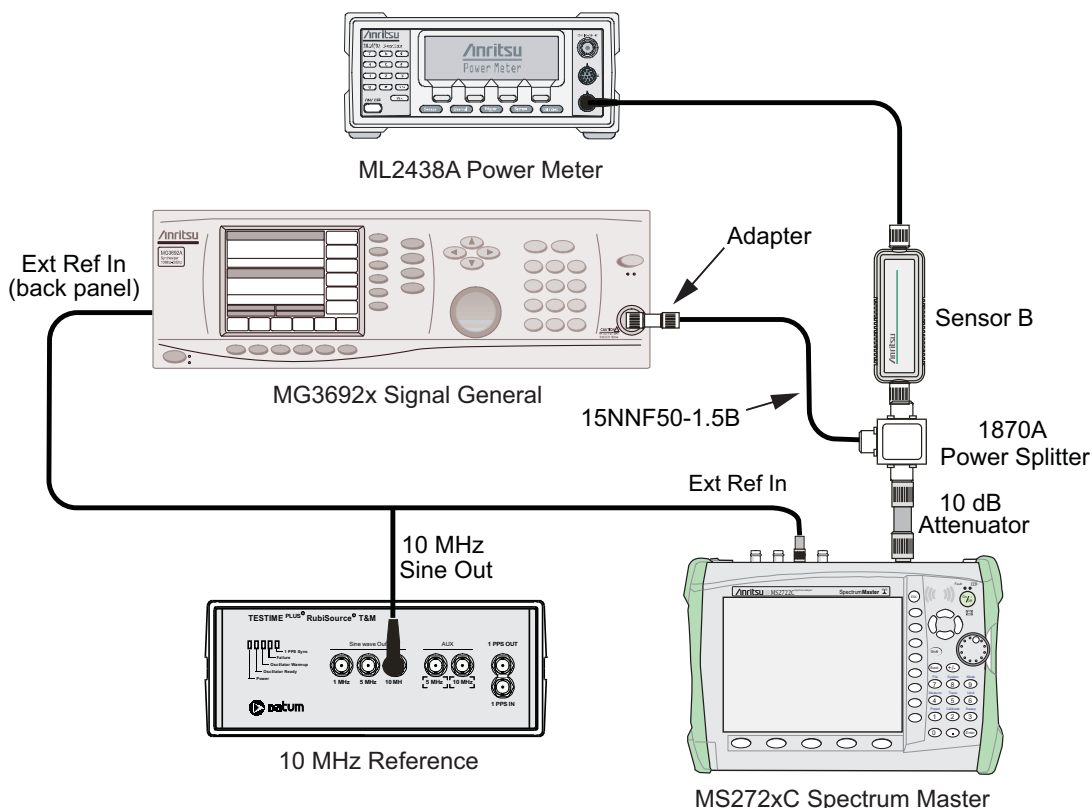

Figure 2-4. 50 MHz Amplitude Accuracy Verification, Test Setup
1. Connect the equipment as shown in Figure 2-4, disconnecting Sensor A from the Attenuator, and connecting the RF In port of the MS272xC to the splitter output via the Attenuator.